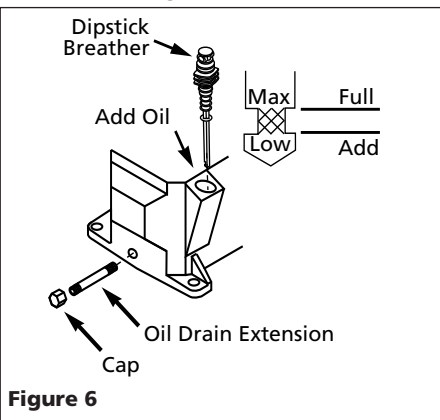

Figure 6
Ensure oil drain extension and cap has been installed (if included) then remove the dipstick breather (See Figure 6) and fill pump oil according to Chart 1.
the extension. Remove the oil drain plug from the base of the pump and install the oil drain extension (See Figure 6).
**Do not use regular automotive oil such as 10W-30.** Additives in regular motor oil can cause valve deposits and reduce pump life. For maximum pump life, drain and replace oil after the first hour of run time. Proper oil fill level is illustrated in Figure 6.